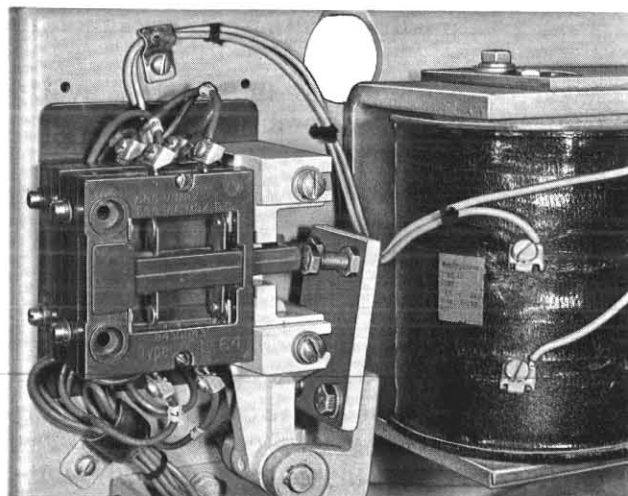

Fig. 6 Type L-64 Interlock for Type LF Contactors
**INSTALLATION ON TYPE K or TYPE LF CONTACTOR** - The interlock mounts on a separate base which has its own operating arm actuated by the contactor magnet. (See Fig. 6) Travel adjustment is made by means of adjusting screws on the operating arm.